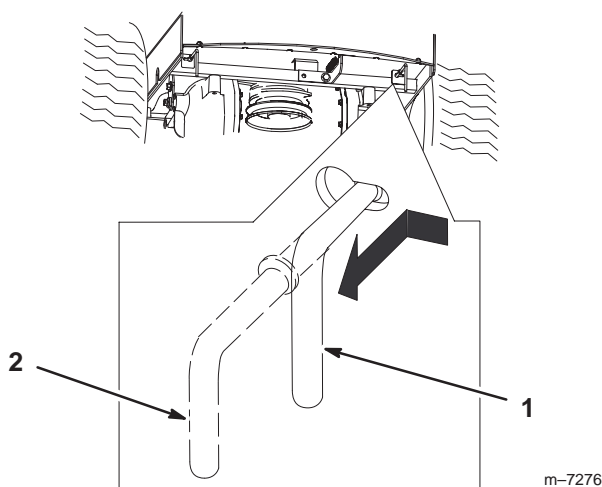

Figure 14
3. Move the two bypass levers to the inside and push them in until the washer on the rod passes through the slot (Fig. 14).
4. Push the levers toward the outside to lock them in place (Fig. 14).
Move each bypass lever to the inside and pull them rearward, completely through the slot (Fig. 14).